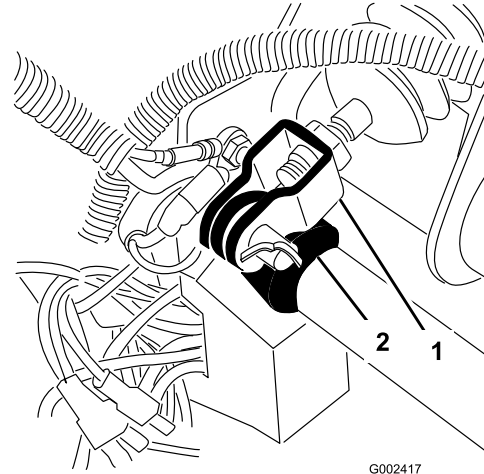

Figure 57
1. Remove the cotter pin and clevis pin securing the master-cylinder yoke to the brake-pedal pivot (Figure 57).
3. Loosen the jam nuts securing the yoke to the master-cylinder shaft (Figure 57).